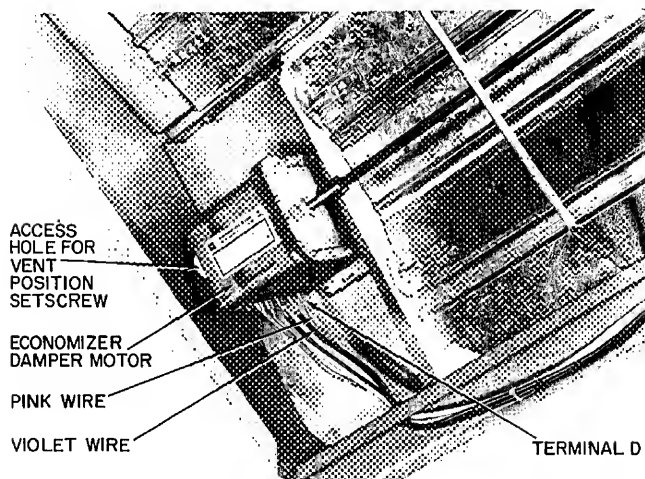

Fig. 25 — Economizer Motor Connections (008 Units)
Remove violet wire from economizer damper motor and connect to terminal D on economizer damper motor. See Fig. 25.
8. Adjust the indoor blades drive linkage so that indoor blades are fully closed. Tighten the linkage connector setscrew. Turn off base unit power. Reconnect pink and violet wires to economizer motor, as shown in Fig. 25.